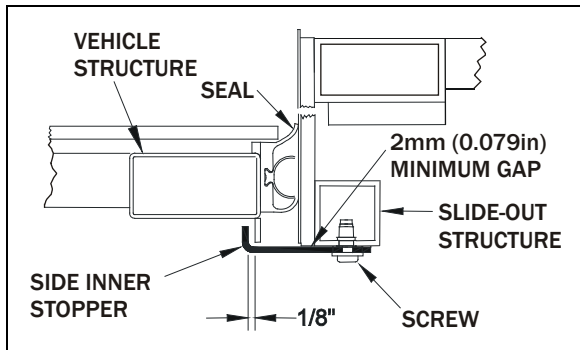

FIGURE 6: SIDE INNER STOPPER ADJUSTMENT
1. Adjust the side inner stoppers at 1/8" from the vehicle side structure keys, and tighten the screws. Make sure there is a minimum gap of 2mm (0.079") between the side inner stopper and the side window pane (Figure 6). Use shim as required.